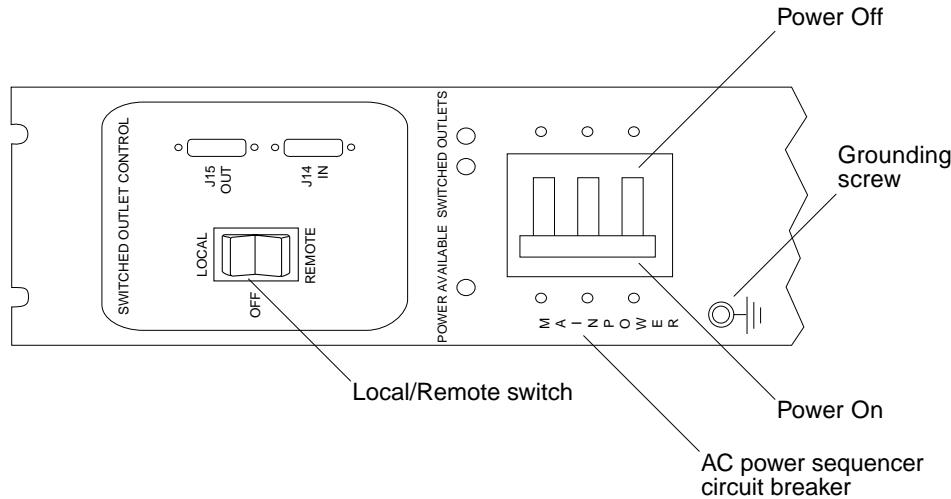

FIGURE 4-6 AC Power Sequencer Control Panel
4. Push the AC power sequencer circuit breakers at the bottom front and bottom back of the storage system to Off (FIGURE 4-6).
6. Push the Local/Remote switch at the bottom front and bottom back of the storage system to Remote (FIGURE 4-6).
7. Press the AC power sequencer circuit breakers at the bottom front and bottom back of the storage system to On (FIGURE 4-6).
3. **At the bottom of the storage system(s), remove the trim panels and push the AC power sequencer circuit breakers to Off (FIGURE 4-6).**